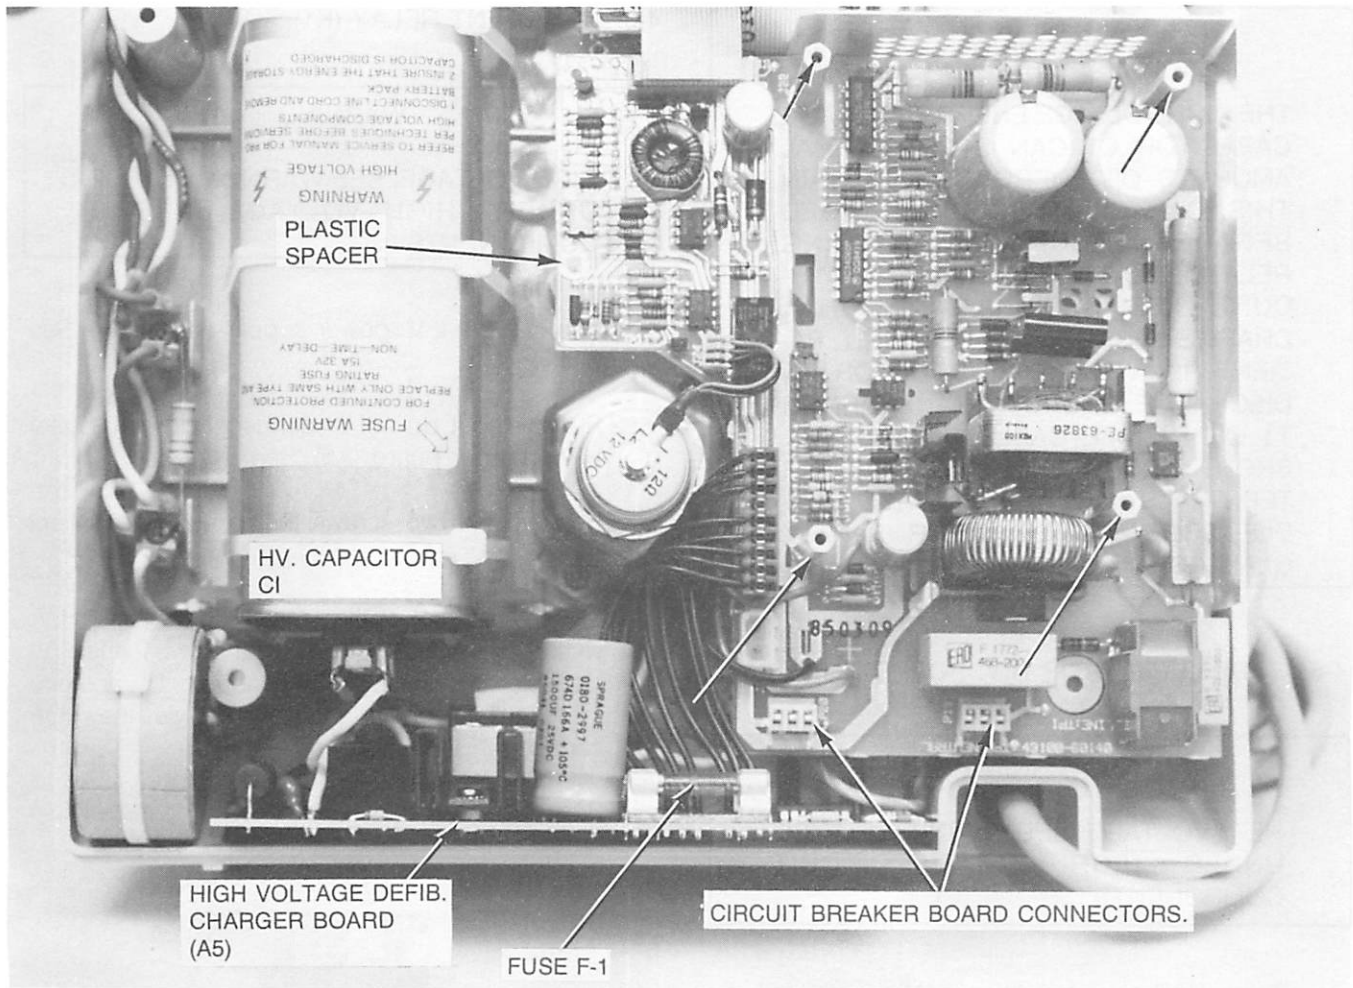

Figure 4-4.
5. Remove the four aluminum spacers indicated by the arrows in Figure 4-4.
6. Compress the latch on the plastic spacer (Figure 4-4.) and lift the board until it clears the latch. Place a finger under the board at that point and near the circuit breaker connections and lift the board out.
1. The defibrillator charger board (A5) is mounted vertically at the rear of the unit behind the H.V. capacitor. See Figure 4-4.